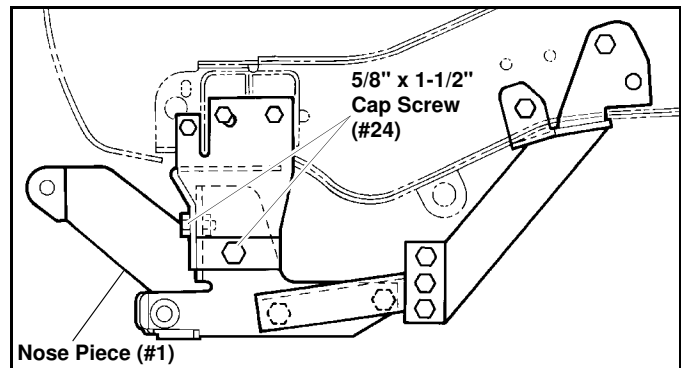

Figure 5
**IMPORTANT:** The Cap Screws securing the Sub-Frame to the Front Crossmember must be staggered with the front bolts being positioned in a lower set of holes than the side bolts. (Unless the holes are in the lowest possible position) (See Figure 5.)